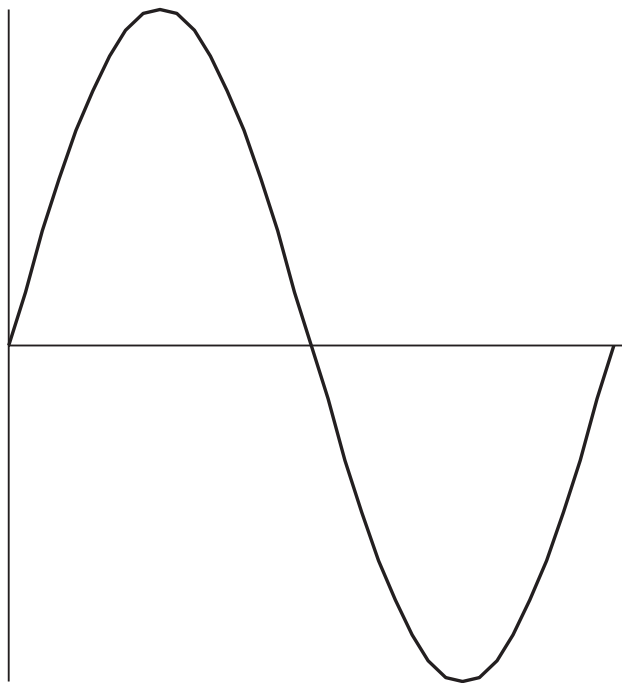
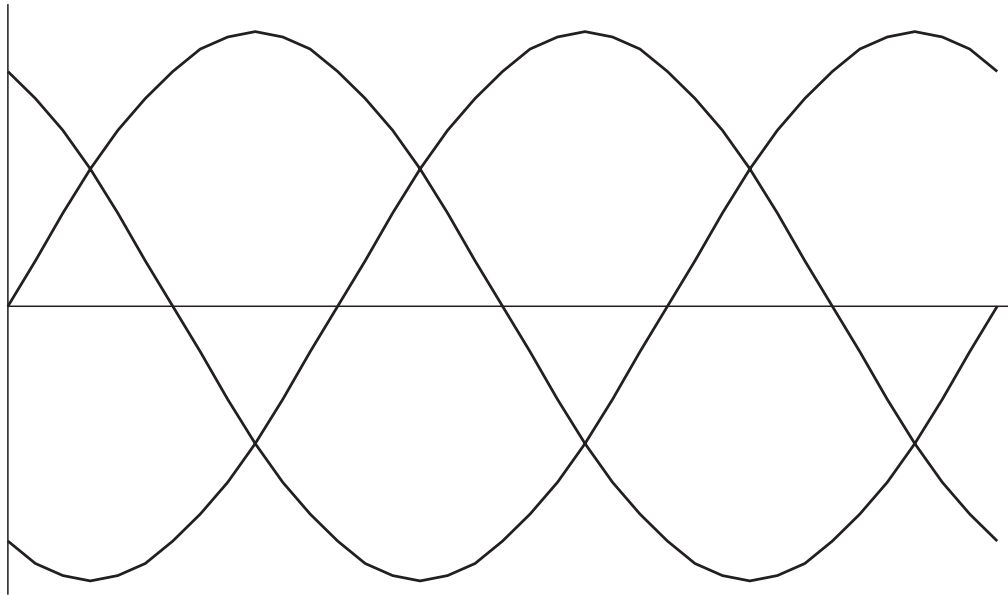

Figure 23-1 Single-phase power falls to zero three times each cycle.
Figure 23-2 Three-phase power never falls to zero.
2. The power delivered by a single-phase system pulsates (Figure 23-1). The power falls to zero three times during each cycle. The power delivered by a three-phase circuit pulsates also, but the power never falls to zero (Figure 23-2). In a three-phase system, the power delivered to the load is the same at any instant.